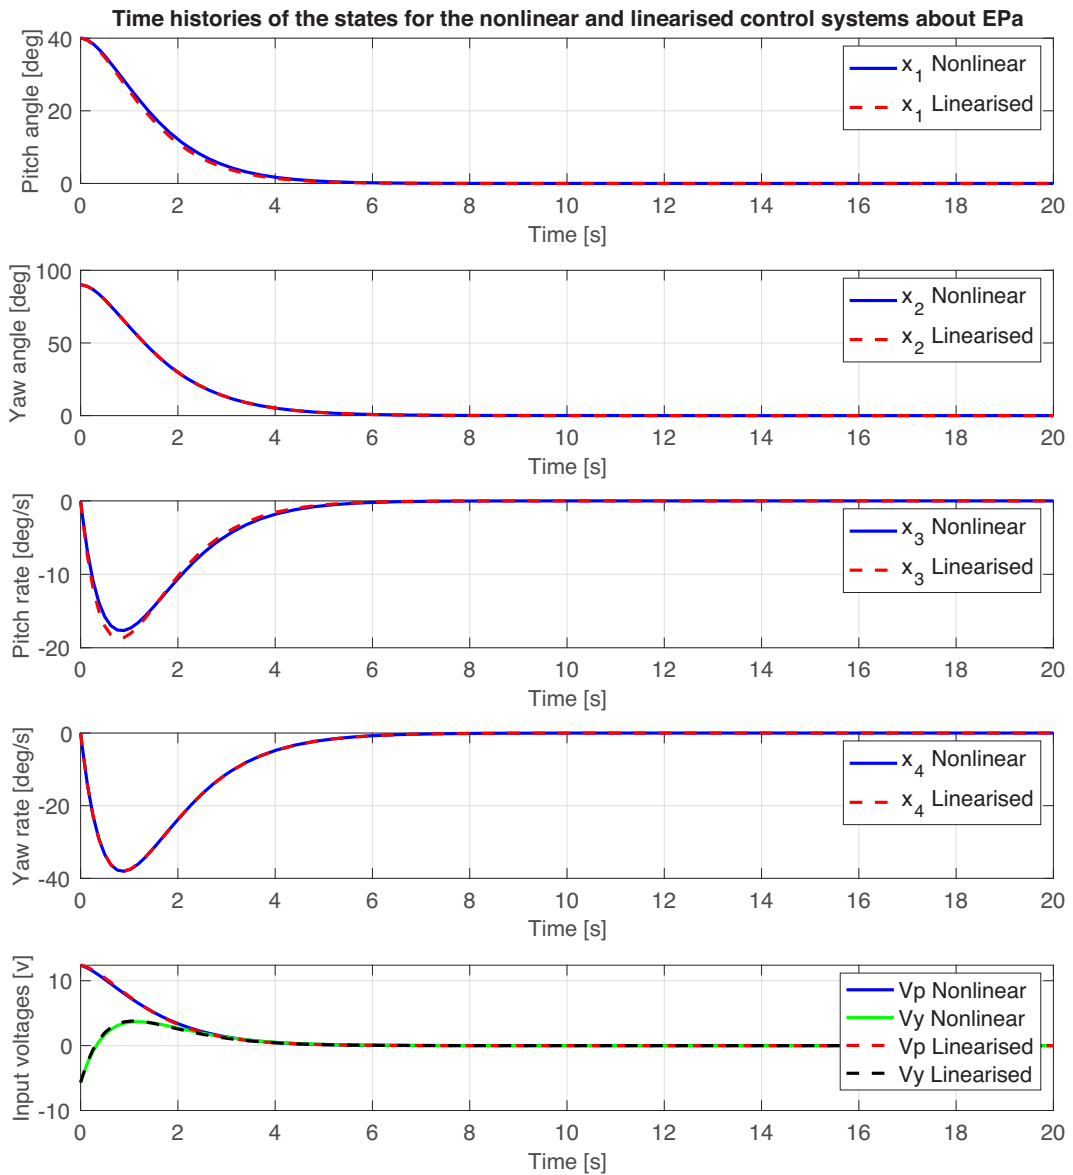

Figure 4: Time histories of the states and input voltage.
5. Plots the time histories of the states from both the nonlinear and linearised control system against each other. Plot the states $x_1(t)$ and its linear approximation $x_{1a}(t) + \bar{x}_{1a}$ on top of each other in one graph, then plot $x_2(t)$ and $x_{2a}(t) + \bar{x}_{2a}$ together on another graph, and so on. Sample results for the initial conditions $x_1(0) = 40$ deg, $x_2(0) = 90$ deg, $x_3(0) = 0$ deg/s and $x_4(0) = 0$ deg/s are shown in Figure 4, where we selected the following eigenvalues $\{-1, -1.1, -1.2, -1.3\}$.